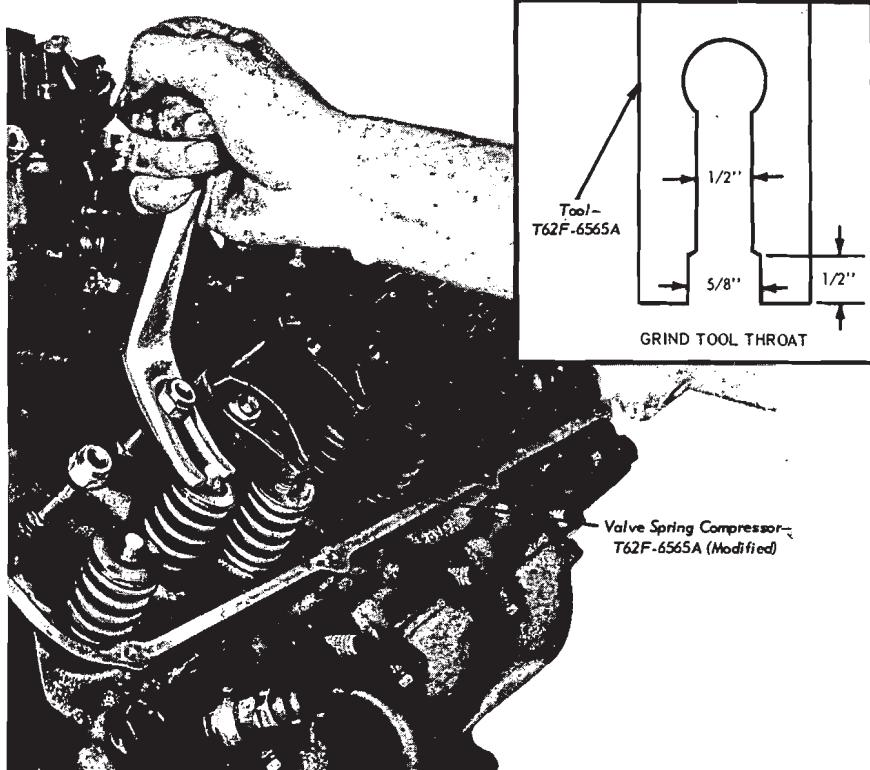
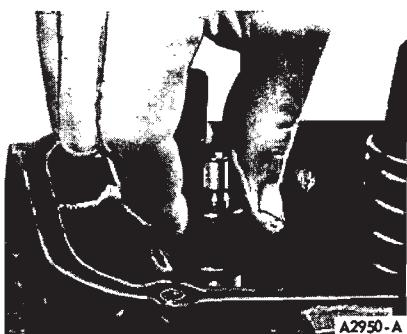

FIG. 16—Compressing Valve Spring—In Chassis
FIG. 17—Removing or Installing Valve Stem Seal
(see insert, Fig. 16). Modified tool can be used on other engines with stud-mounted rocker arms.
5. Install stud nut and compress valve spring with modified tool (Fig. 16). Remove retainer locks, spring retainer, and spring. Remove and discard valve stem seal (Fig. 17).
2. Install new valve stem seal (Fig. 17). Set spring and retainer over valve stem. Compress valve spring with modified tool (Fig. 16) and install retainer locks. Release spring and remove tool and stud nut.